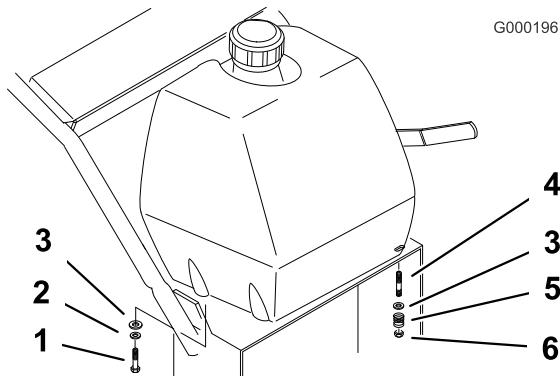

Figure 4
1. Align the fuel tank with the top of the rear frame (Figure 4).
2. Secure the right side of the fuel tank to the rear frame with 2 bolts (5/16 x 7/8 inch), lock washers (5/16 inch) and washers (5/16 inch) (Figure 4).
3. Secure the left side of the fuel tank to the rear frame with 2 studs, washers (5/16 inch), springs, and locknuts (5/16 inch) (Figure 4).